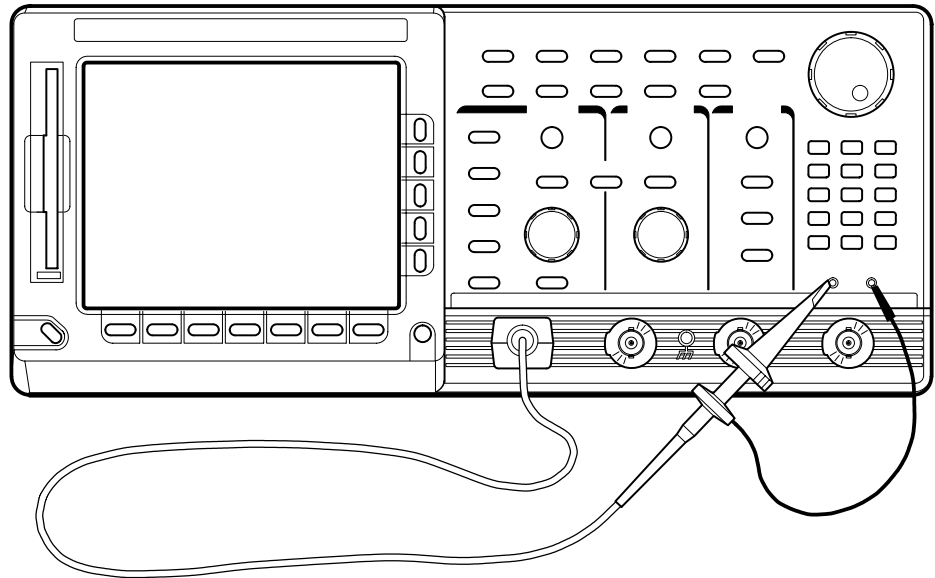

Figure 5–2: Hookup for probe compensation
- a. Locate the two small access holes on the right side of the oscilloscope cabinet near the front. (See Figure 5–1.)
- a. *Hook up test-signal source:* Install the optional-accessory probe to **CH 1**. Connect the probe tip to **PROBE COMPENSATION SIGNAL** on the front panel; connect the probe ground to **PROBE COMPENSATION GND** (See Figure 5–2).
- b. Using the probe compensation tool, adjust the probe for best square wave compensation (flat as possible across its top) (See Figures 5–3 and 5–4).